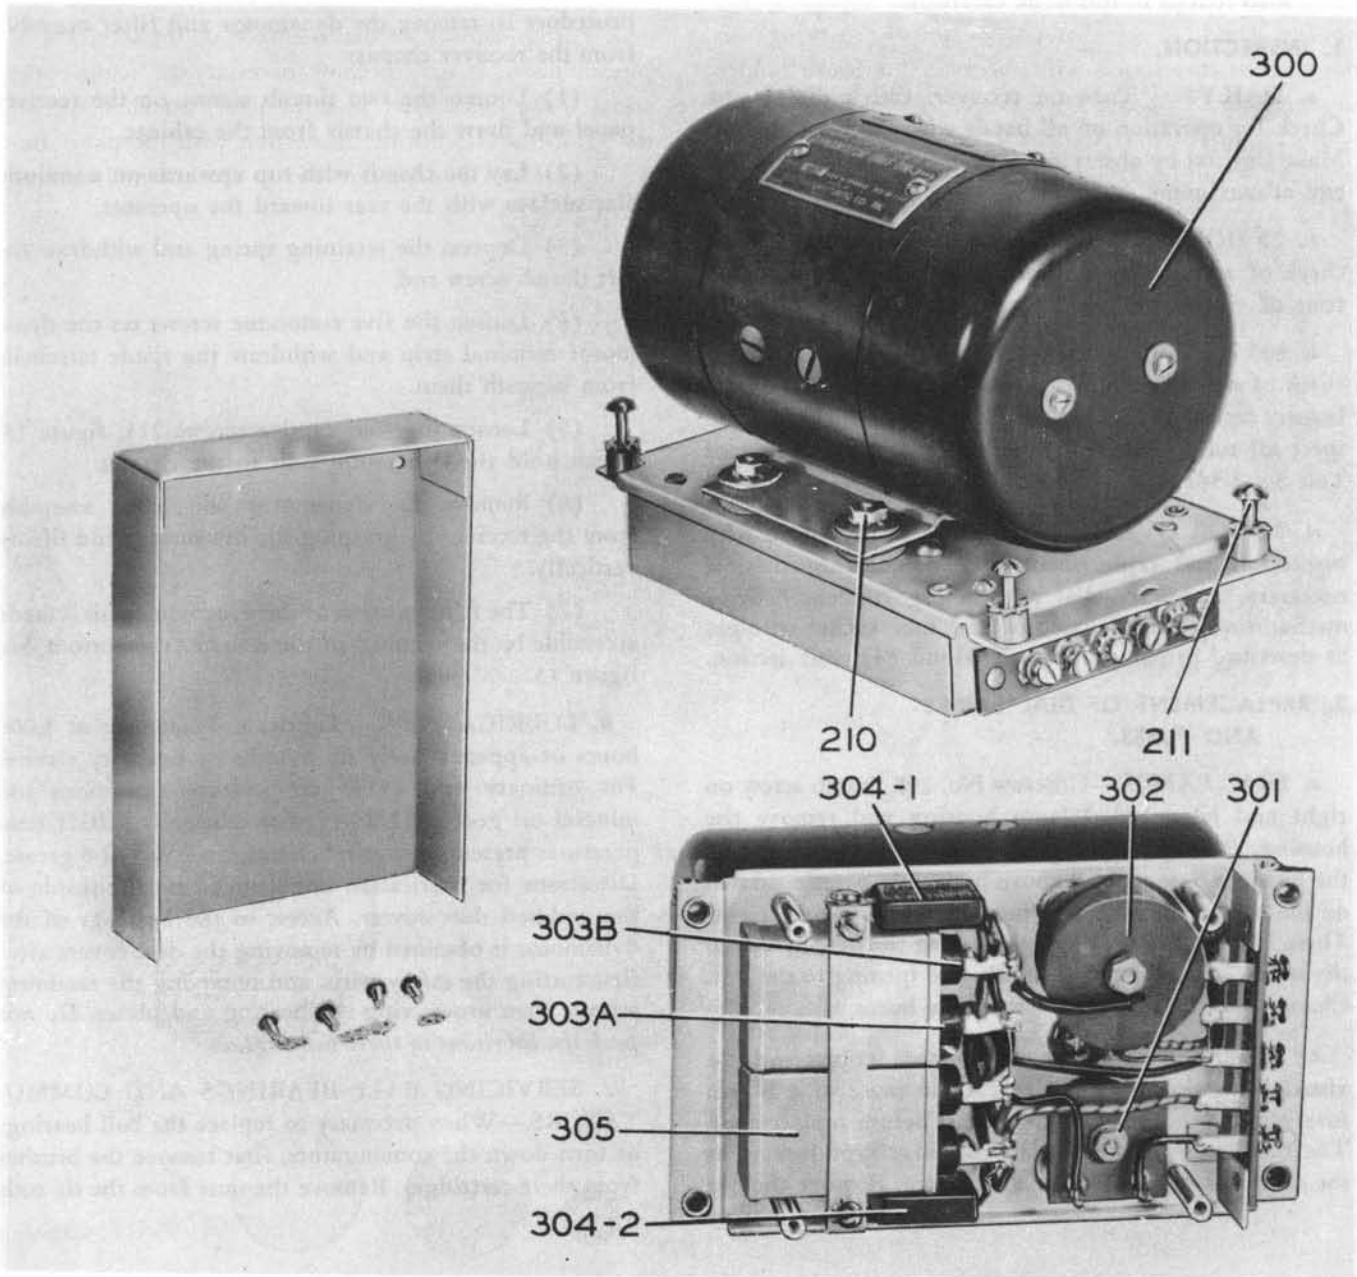

Figure 13 — Dynamotor DM-28-(*) or DM-24-(*), View Showing Filter Open
(1) Loosen the two thumb screws on the receiver panel and draw the chassis from the cabinet.
(2) Lay the chassis with top upwards on a smooth, flat surface with the rear toward the operator.
(3) Depress the retaining spring and withdraw the left thumb screw rod.
(4) Loosen the five connector screws on the dynamotor terminal strip and withdraw the spade terminals from beneath them.
(5) Loosen the four captive screws 211, figure 13, which hold the dynamotor unit to the chassis.
(6) Remove the dynamotor and filter assembly from the receiver by grasping the dynamotor and lifting vertically.
(7) The filter portion of the dynamotor unit is made accessible by the removal of the cover at the bottom. See figure 13.